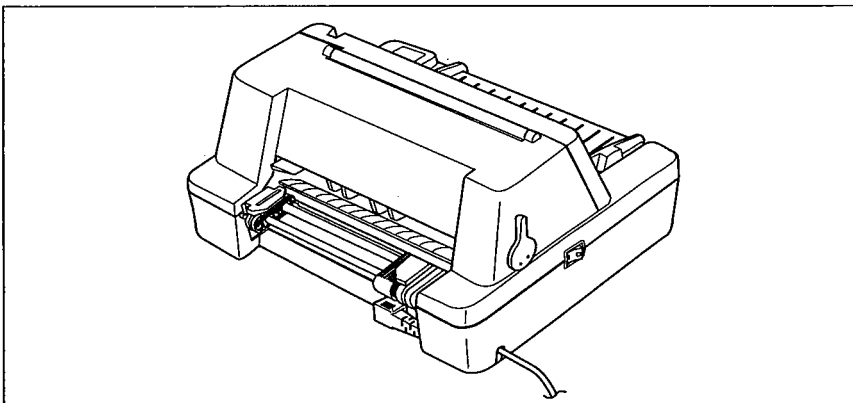

Figure 3-6 Setting the power supply cord
- 2 Set the power cord into the groove at the back of the lower case of printer as shown in Figure 3-6.